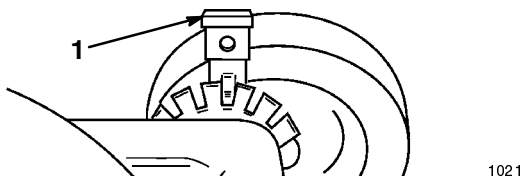

Figure 14
1. Pull the wheel height adjustment lever toward the wheel and move it to the desired position (Fig. 14).